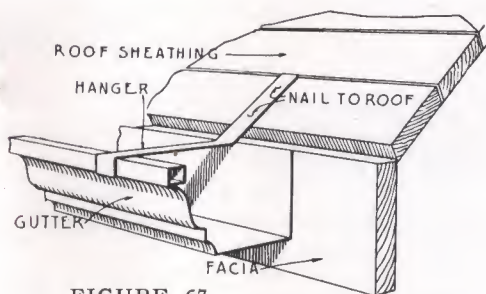
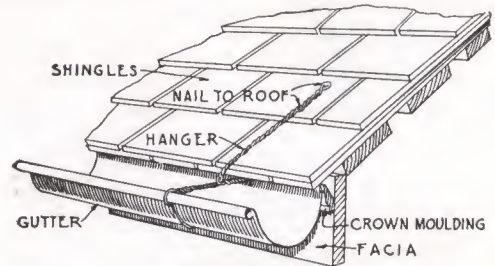

FIGURE 67
FIGURE 68
All gutters are either box gutters (see Figure 67) or round hanging gutters (see Figure 68).
If a box gutter (see Figure 67) is shown on the WALL SECTION, hang it to the cornice, resting it tight against the fascia. The hangers for this gutter should be placed about 24 inches apart and across the top of the gutter, and not more than 8 inches from the end. The hangers are to be bent to shape on the job and are to be nailed to the roof boards preferably before the roofing is applied. If the roofing is applied before the gutters are hung in place the hangers should first be nailed to the sheathing and then later adjusted to
the gutter. Bend the hanger so that it will lay up flat on the roof, and nail through the hanger into the roof sheathing, as shown in Figure 67.
- (a) If a round hanging gutter (see Figure 68) is shown on the WALL SECTION, hang it after the shingles are on and in the following manner:
- (b) The hanger is a wire one, which sets around the outside of the gutter. The wire in the hanger which goes around the bottom of the gutter is slipped through the loop in the hanger and bent over. The arm of the hanger is then bent so as to lay flat on the roof. Then nail the hanger to the roof (see Figure 68). The joints between the gutters are slip joints—that is, one slips tight into the other and no solder is needed.